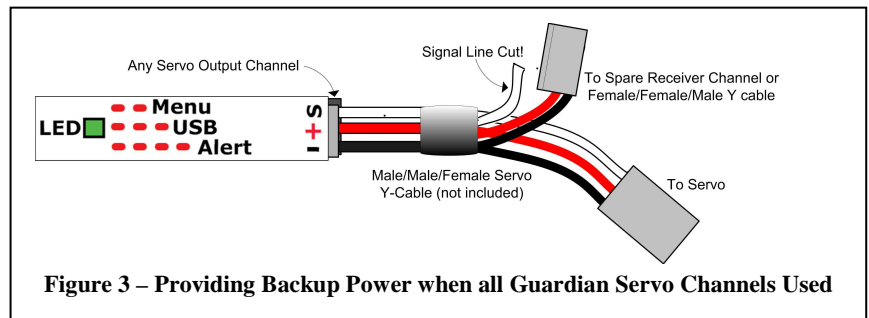

Figure 3 – Providing Backup Power when all Guardian Servo Channels Used
- 2) If all the servo connections on the Guardian are being used, a male/male/female Y cable (ET p/n CAB-Y-1 or similar) with the signal line cut can be used to provide additional power to the servos, as shown in Figure 3.